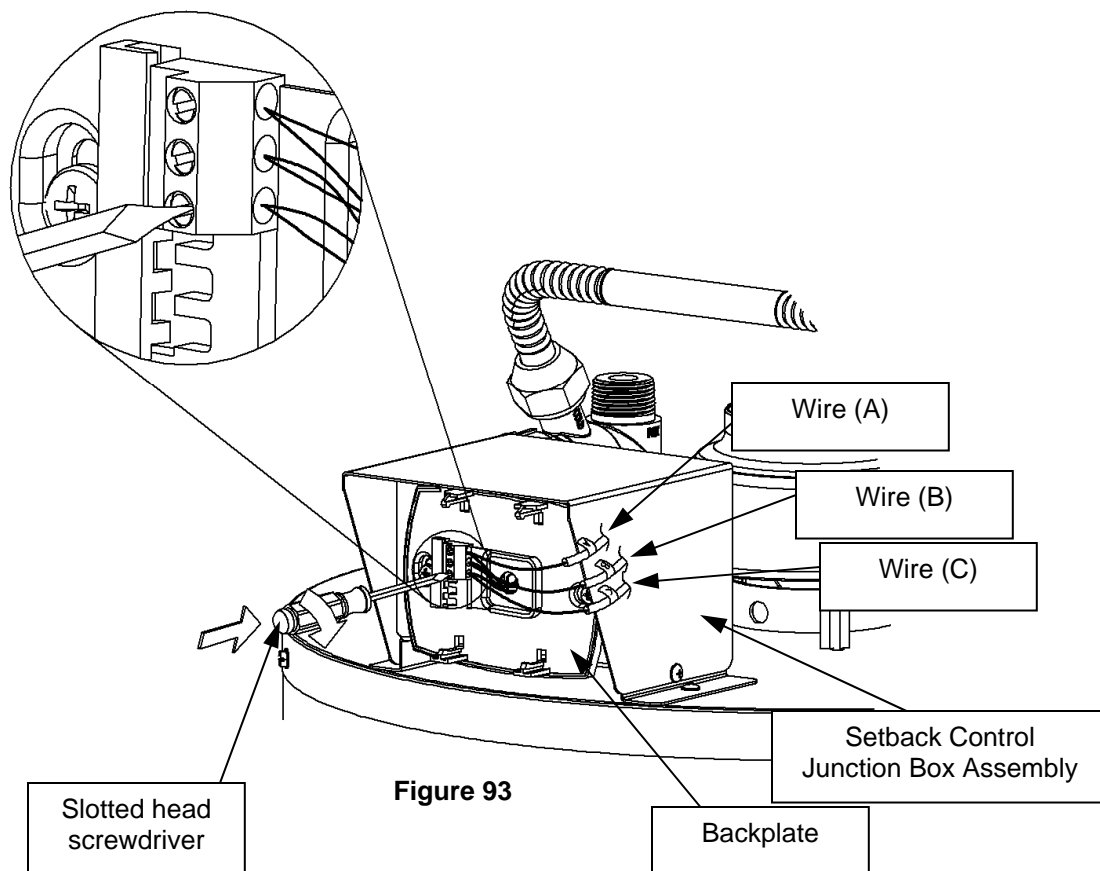

Figure 93
Step 12: Tighten the slotted screw in the bottom terminal location on the backplate (located on the Setback Control Junction Box Assembly). This is shown in Figure 93.